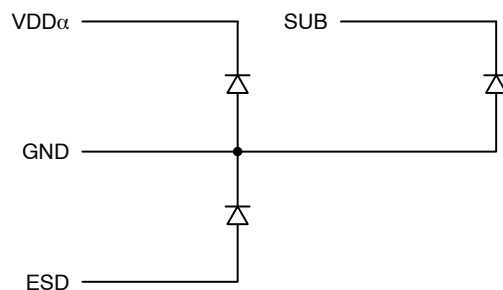

Figure 14. External Diode Protection
5. The image sensor can be protected from an accidental improper ESD voltage by current limiting the SUB current to less than 10 mA. SUB and VDD must always be greater than GND. ESD must always be less than GND. Placing diodes between SUB, VDD, ESD and ground will protect the sensor from accidental overshoots of SUB, VDD and ESD during power on and power off. See Figure 14.